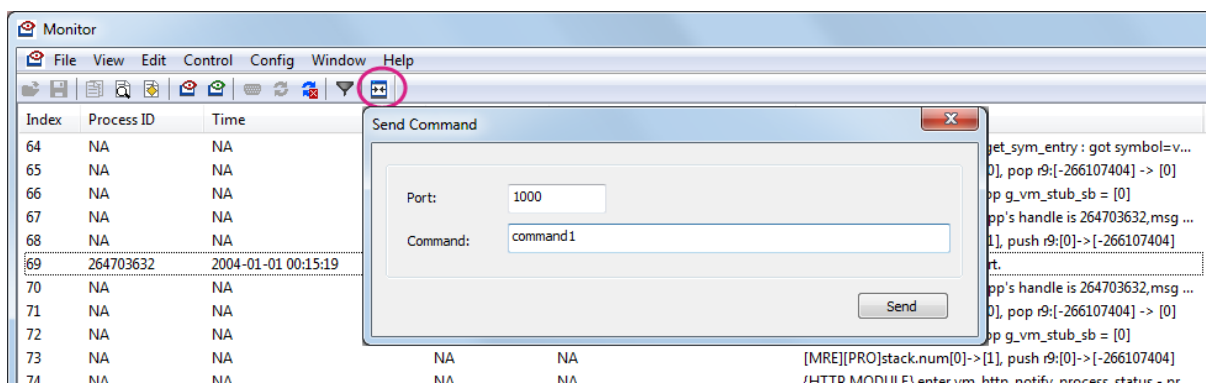

Figure 37 Send Command window
- 6) You can also send commands by clicking the Send Command toolbutton, as shown in Figure 37. Please see 5.4, "Command" for the command string format.